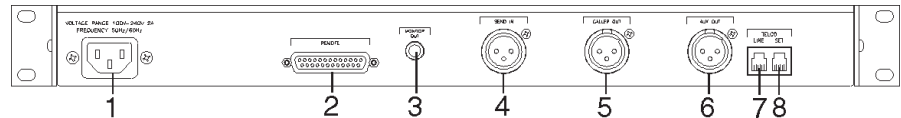

Figure 3. SPH10 back-panel connectors
1. *Power.* The AC power cord input (See Figure 3, below.) is a NEMA type connector allowing use of premolded domestic US power cords as well as various other premolded international power cords.